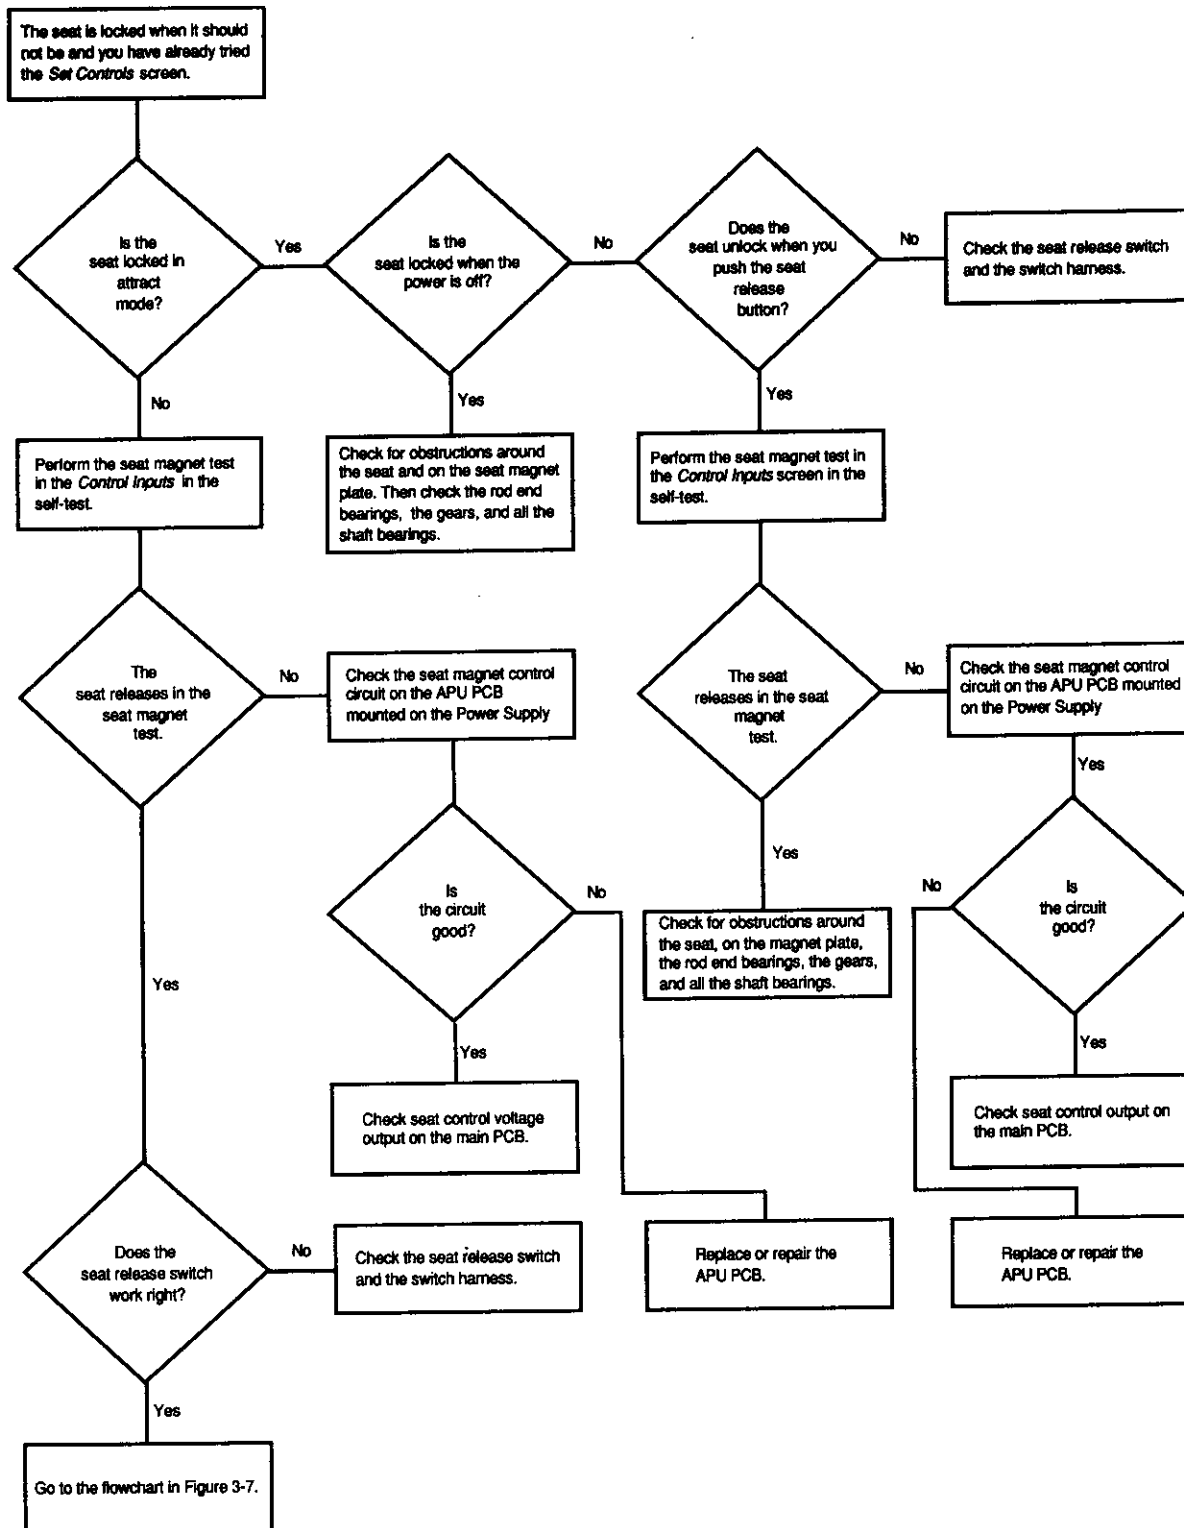

Figure 3-15 Seat Is Locked When It Should Not Be And You Have Already Tried the Set Controls Screens
Replace both rod ends if the seat turns with difficulty, or the seat squeaks as it rotates. The seat assembly is shown in Figure 3-15.
The seat pivot bearings turns the seat (not the mounting box). Replace the seat pivot bearings if the seat twists or jiggles excessively or you can pull the seat up and down. (If both the seat *and* the mounting box twist and move up and down, the main bearings may need to be replaced.) The seat assembly is shown in Figure 3-15.
The main seat bearings are located between the base of the simulator and the seat mounting box. Replace them if the seat mounting box is twisting or jiggling or you can pull the box up and down. (If *only* the seat twists and moves up and down, the seat pivot bearings, not the main bearings, may need to be replaced.) The seat assembly is shown in Figure 3-15.
1. Remove socket-head screws which hold the potentiometer bracket in the simulator and pull the potentiometer bracket and the small gear a little ways out of the simulator. See Figure 3-15.